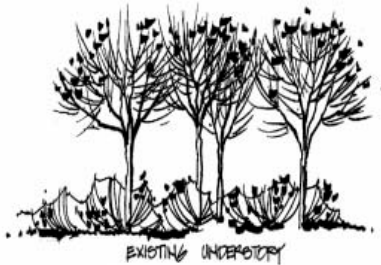

FIGURE 18-22
4.2.3 54.3 Trees left in clusters with existing understory increases a tree's chance for survival because the root system will be less affected as shown in **Figure 18-22**.